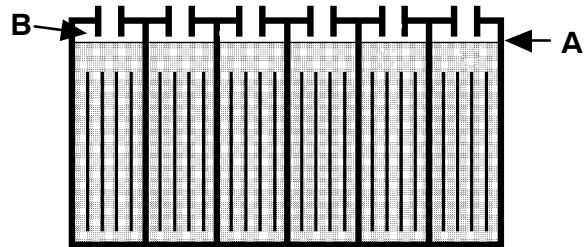

FIG. 19
9. Recheck battery electrolyte level (A) after charging. Add distilled water to bring level 1cm from bottom of sight tubes (B). Replace cell caps securely and wipe off the top of batteries with a clean cloth (Figure 19).